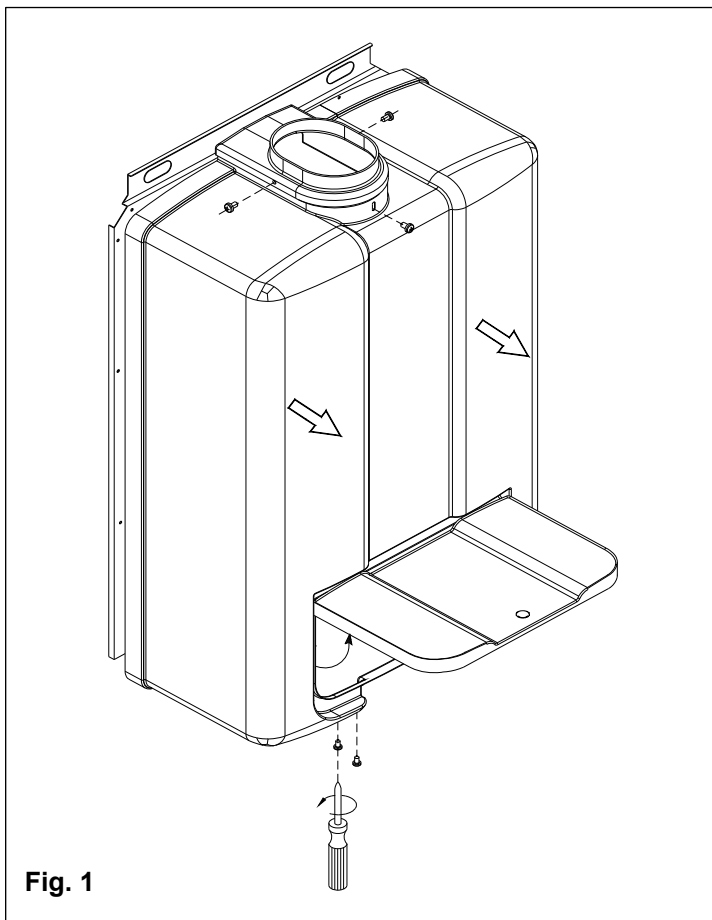

Fig. 1
- a. Remove the fixing screws (see. Fig. 1);
- remove the front panel (fig. 1);
- Open the system drain valve (see fig. 1).
- **If only the boiler needs to be drained, close the flow/return isolating valves on the heating circuit and open the drain valve located at the bottom of the boiler on the pump manifold (see fig. 1);**